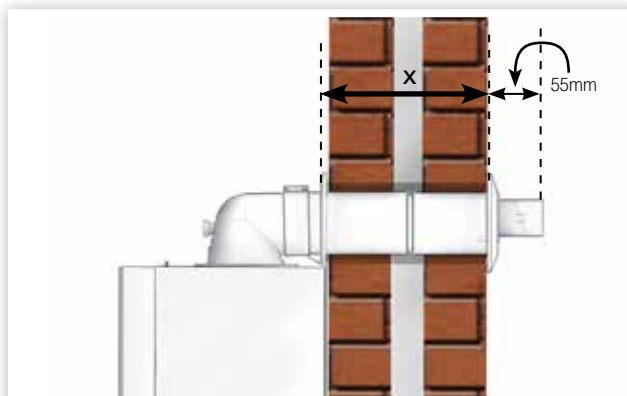

FIGURE 14. FLUE THROUGH THE WALL
- 10.13.5 Take a measurement from the outside of the wall to the edge of the turret dimension "X" Figure 14.
- 10.14.4 Mark this dimension on to the turret as in Figure 14.